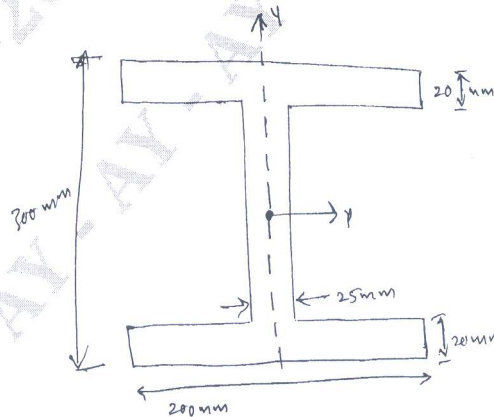

Fig.Q2(b)
- b. If the B.M. is applied in in horizontal plane and is a clockwise sense about 'cy' when viewed in the direction 'yc'. Find the direct stress distribution of the beam? [Refer Fig.Q2(b)]